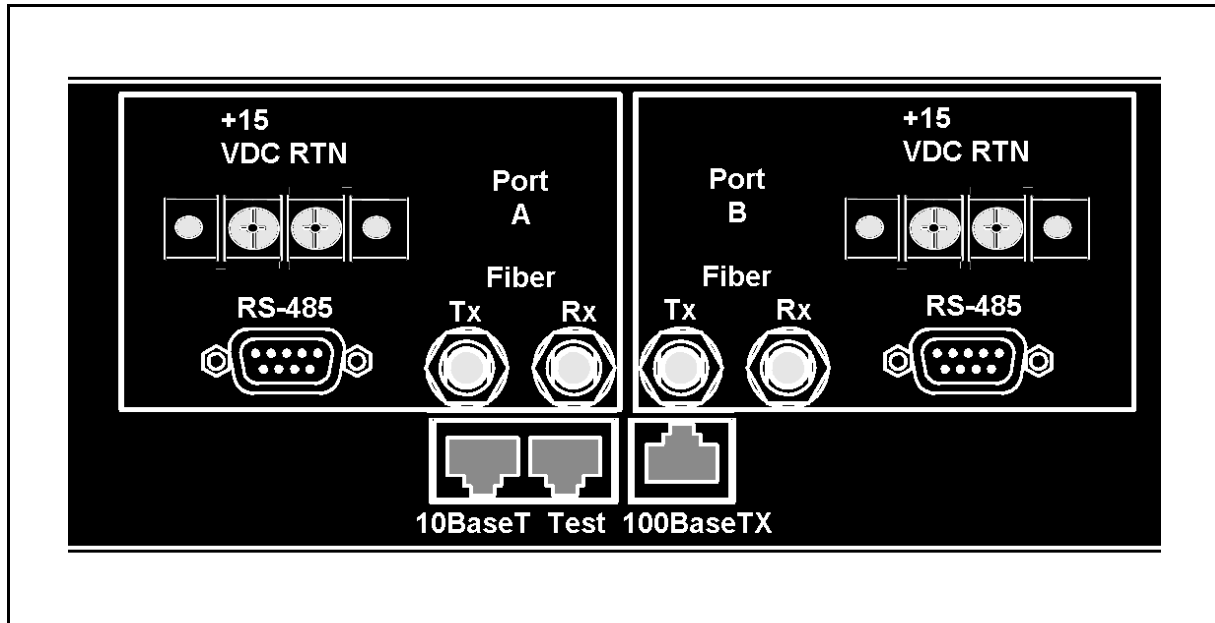
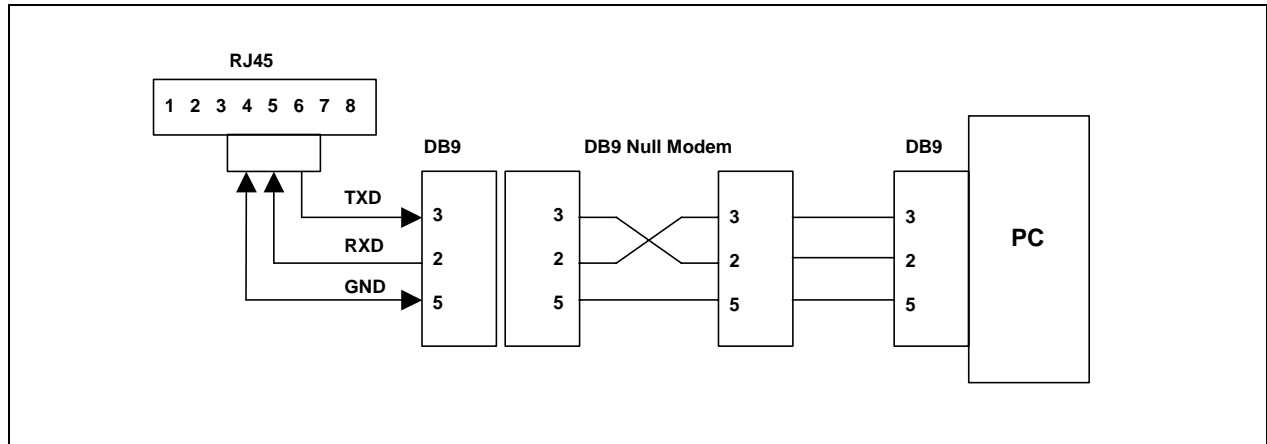

Figure 6-6: Backhaul Router – Output Connections
Figure 6-8: Maintenance Port (TEST) Serial I/O
The Ethernet port is labeled 10Base-T (see Figure 6-6). It is used to connect the Backhaul Router through a Hub to a Cisco (or similar) Network Access Router.
2. Connect the fiber optic cables onto the ST connectors on the rear of the Backhaul Router (see Figure 6-6).
3. Connect the Transmit (TX) output on the rear of the Backhaul Router to the Receive (RX) input in the Tower Top Radio
4. Connect the Receive (RX) input on the rear of the Backhaul Router to the Transmit (TX) output in the Tower Top Radio.
An RJ-45-to-DB-9 adapter is required to connect the Backhaul Router (TEST) to the PC (see Figure 6-6). The cable shown in Figure 6-8 can be used to connect the Backhaul Router to most computers and terminals. Refer to Table 6-5 for connector pin outs.